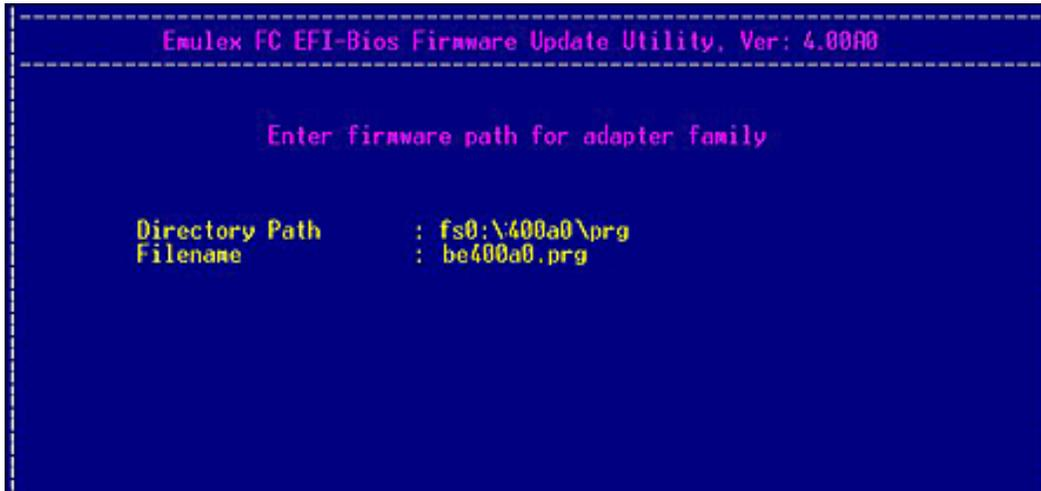

Figure 63: Batch Mode Update path screen
4. Press <P> to update the firmware or boot code. You are prompted for a directory path and file name for the firmware or boot code image file (Figure 63). Enter the path and file name, and then press <Enter>.